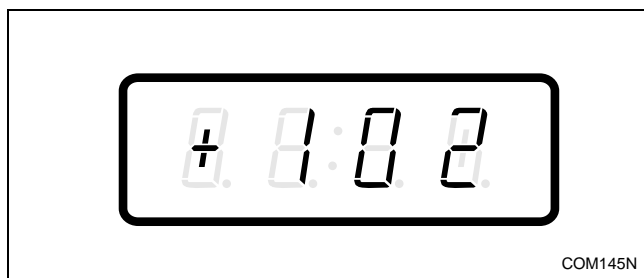

Figure 172
3. Press the DELICATES (+) or the COLD (-) keypad to scroll through the programmable options until “+102” appears in the VFD. Refer to *Figure 172*.